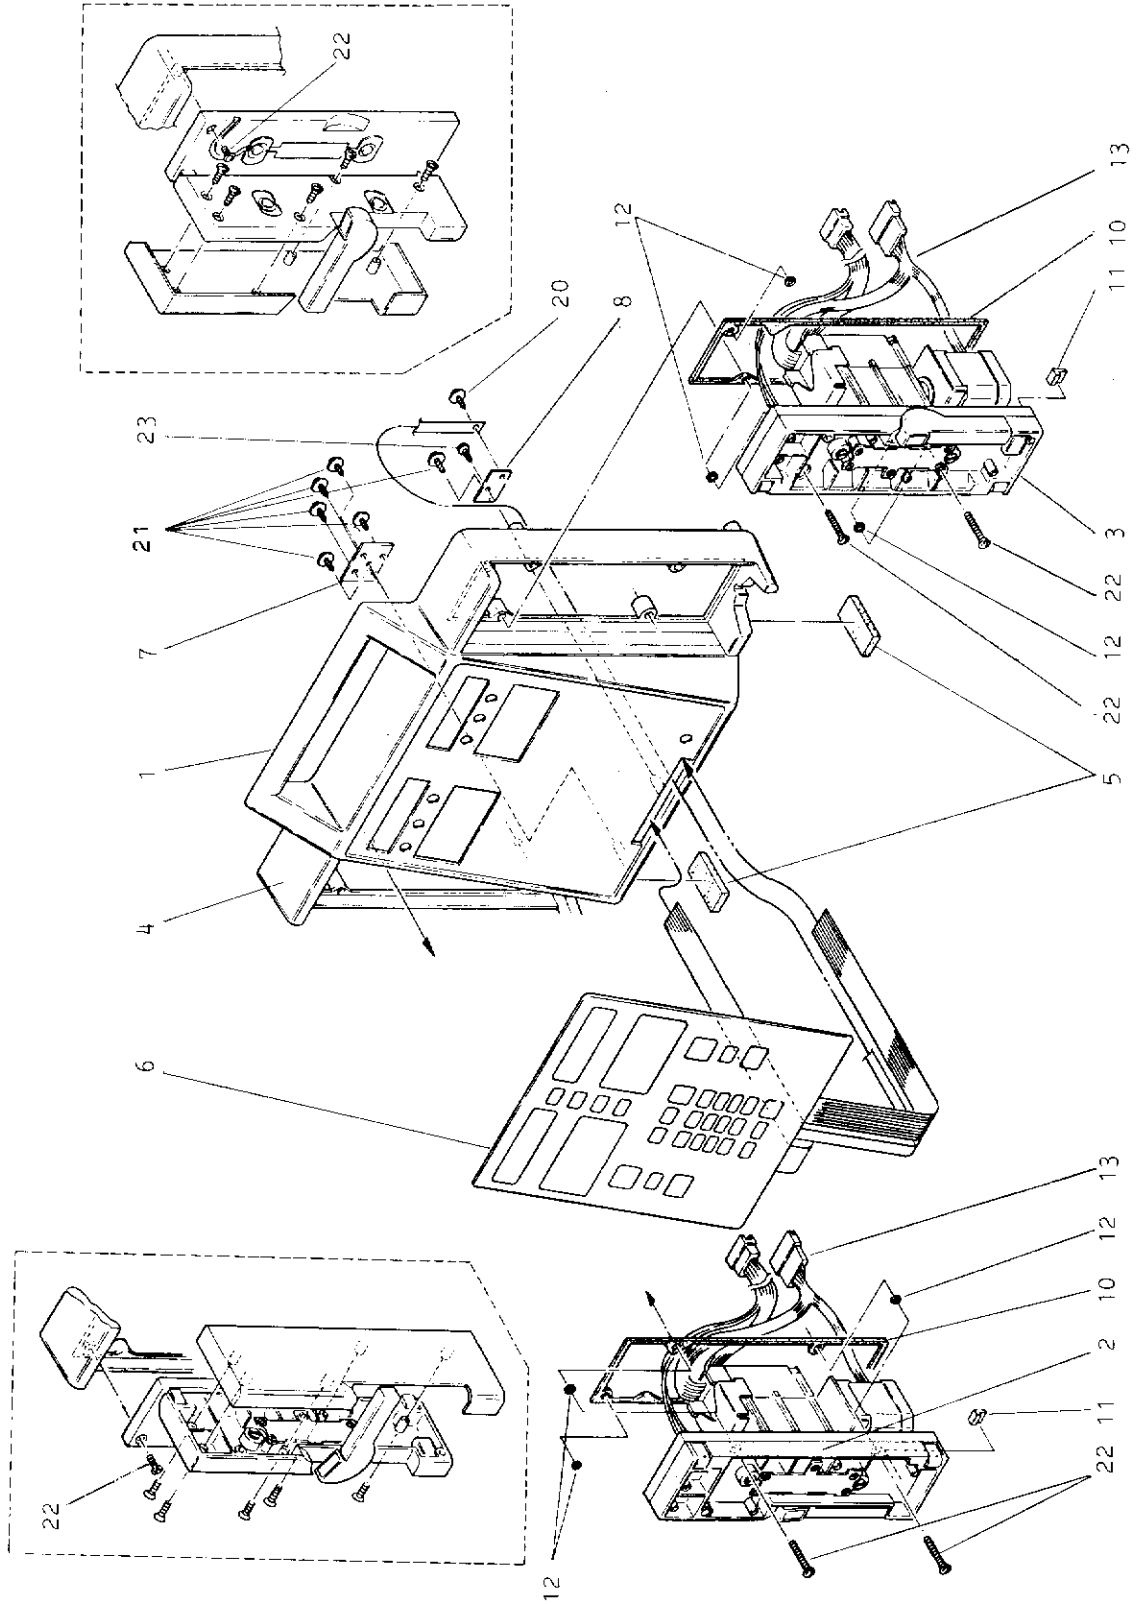

Figure 8-1. Top Assembly
**Parts list for Figure 8-1**
Note: The following wire harnesses are not shown in Figure 8-1.